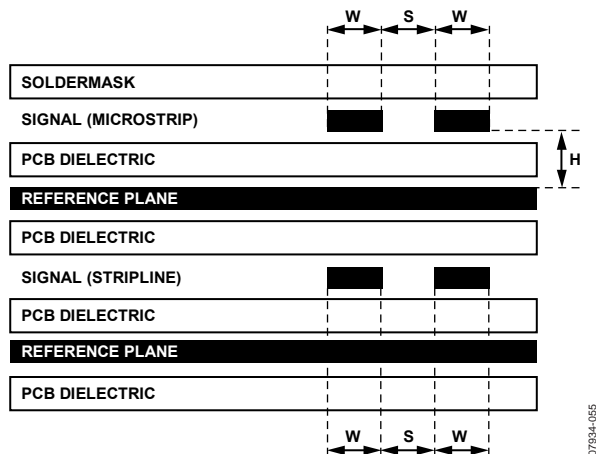

Figure 55. Example of a PCB Cross-Section
The high speed differential inputs and outputs should be routed with $100\ \Omega$ controlled impedance differential transmission lines. The transmission lines, either microstrip or stripline, should be referenced to a solid low impedance reference plane. An example of a PCB cross-section is shown in Figure 55. The trace width (W), differential spacing (S), height above reference plane (H), and dielectric constant of the PCB material determine the characteristic impedance. Adjacent channels should be kept apart by a distance greater than $3\ W$ to minimize crosstalk.